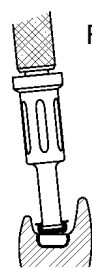

Fig. 12
11. Use the Locator Male 636066 Removal Tool attached to the Locator Core Tool to remove the Black Processing Male from the metal denture cap. The sharp circular edge on the end of the removal tool should be wedged tightly down into the very bottom of the plastic insert so that it will catch the inside of the black plastic insert and pull it at an angle out of the metal housing (Fig. 12).